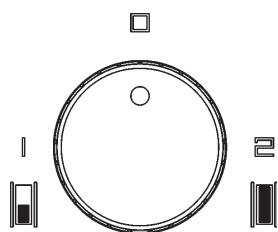

Fig.2
grilling zone (fig.A)  or the entire  grilling zone (fig.B) rotate the knob (6) to the desired position (figure 2). Illumination of the indicator light (8) indicates that the appliance is being powered. If you choose to only use the front grilling zone, due to the flush arrangement of the grill surface, the back grilling zone will also heat up (for example, if the front grilling zone is heated to 200°C, the back grilling zone will reach a temperature of 100°C) and can therefore be used to keep cooked food hot.